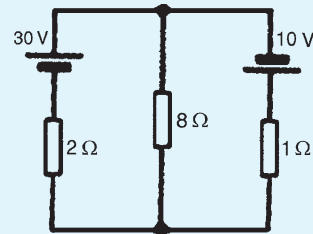

Figure 13.26
2. Use the superposition theorem to find the current in the  $8\Omega$  resistor of Fig. 13.26.